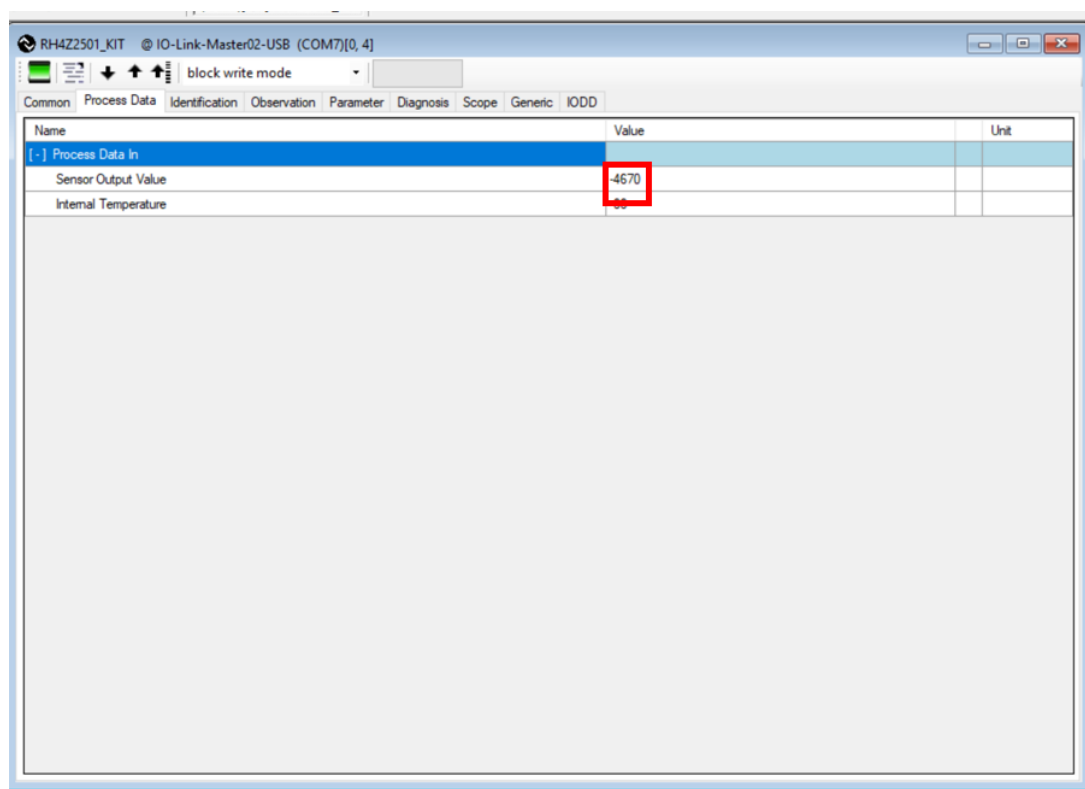

Figure 8. Reading Data Values
- b. Select the necessary values (see Figure 8).